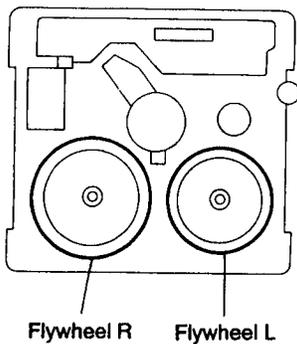

Fig.5-32
■ **Removing the Flywheel** (See Figs. 5-32,5-33)
3. After turning over the cassette mechanism, remove the slit washers ④ and ⑤ fixing the capstan shafts R and L, and pull out the flywheels R and L respectively from behind the cassette mechanism.